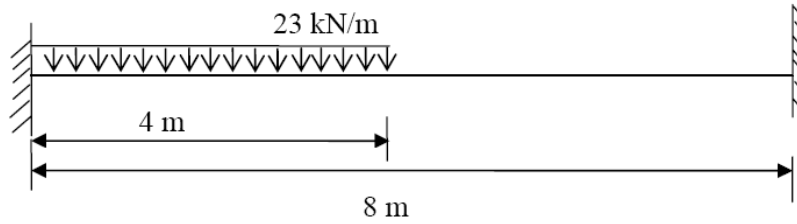

Figure 7:
7. Analyze the fixed beam shown in Figure 7 and draw shear force and bending moment diagrams. Locate the points of contraflexure. [16]